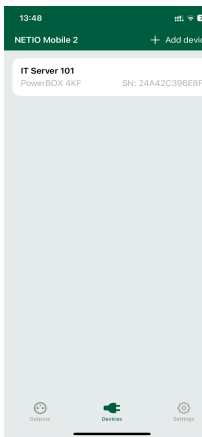
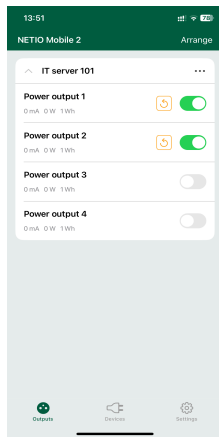

Figure 8
Figure 9
- 4) You can select the device and click “CONNECT” to add this device to mobile app and control it then. (Figure 8; Figure 9)